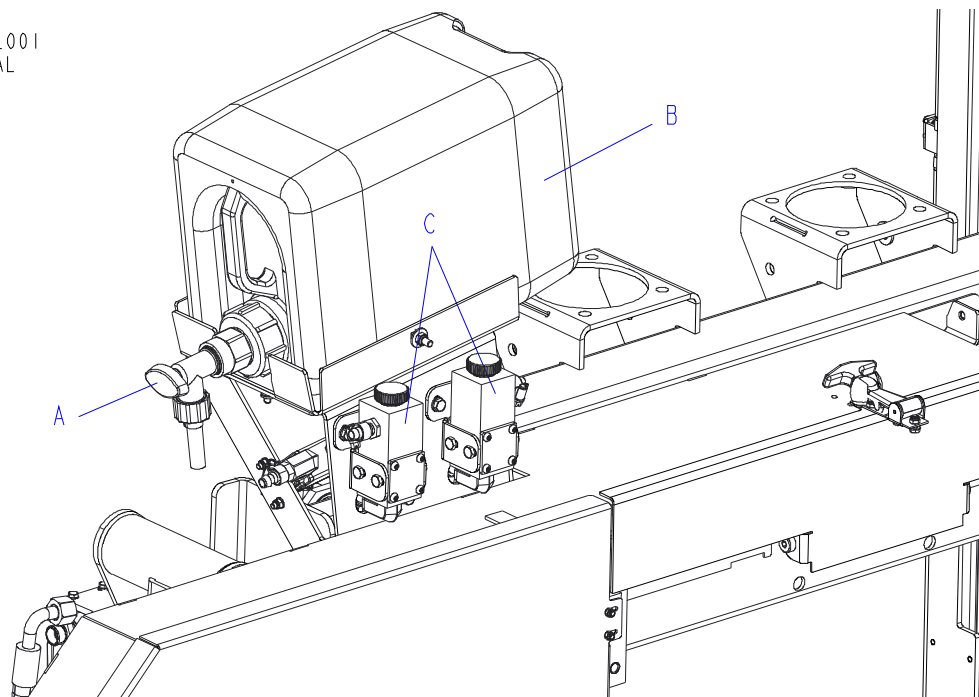

FIG. 2-11
See Figure 2-11. The Lube System keeps the blade and the wheels clean and cools them. When the shut-off valve (A) is open, the coolant (ACP-1 oil) flows from the tank (B) through the hoses to surfaces of the wheels. Oil dispensers (C) located on the saw head control the amount of oil flow.